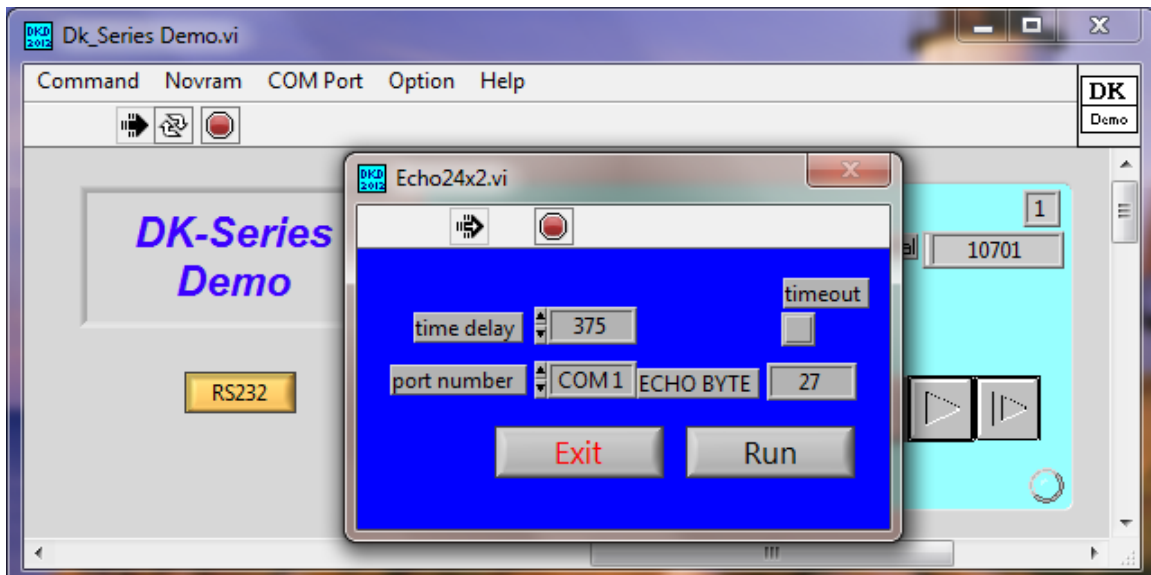

Figure 10. Echo
9.2.6 Echo – This vi checks communication between the DK and computer (Fig 10). Pressing the Run button will return a 27 Echo Byte if the communication is correct. Press Exit to quit the vi.